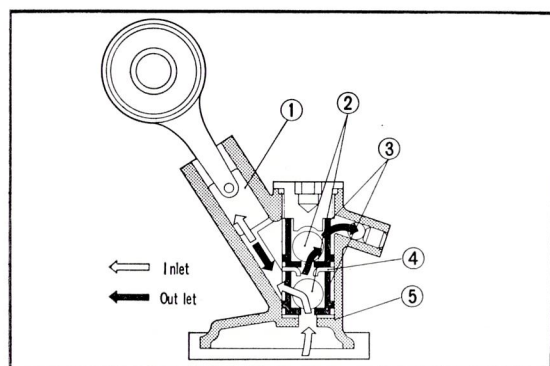

Fig. 3.82 Sectional view of oil pump
Pump plunger is mounted eccentrically on the clutch outer and is operated by the plunger rod. (Fig. 3.82)
- a. Exercise care when installing the pump rod, installing pump rod in reverse will render the pump inoperative. (Fig. 3.82, 3.83)